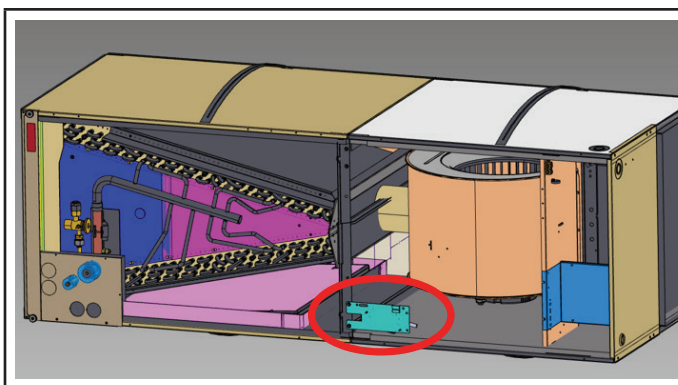

FIGURE 22
- 3 - With air handler unit panels removed, install sensor bracket assembly to the unit by lining up holes in the center support bracket as shown in figure 22. Note: sensor should be facing toward the inside of the unit.